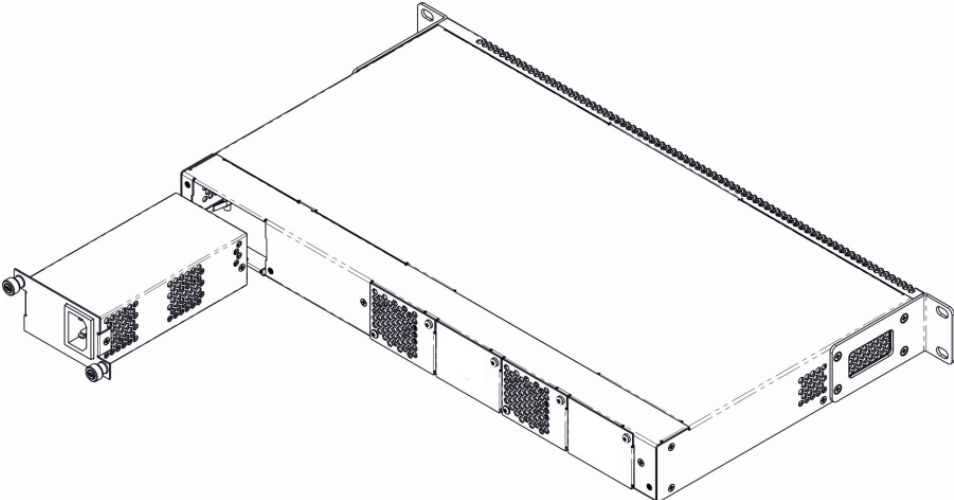
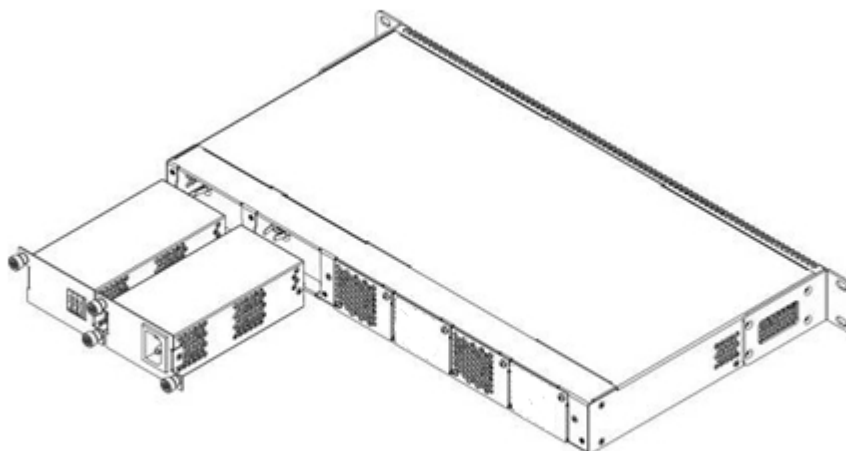

Figure 11 – Power module installation
Figure 12 – Power module installation for LTP rev.C/rev.D
Depending on power supply requirements, the LTP-4X/8X rev.B terminals can be supplemented with either an AC power module, 220 V, 50 Hz, or a DC power module, 48 V. Location of the power module is shown in Figure 11.
- **Step 1.** Install the power module into the socket shown in Fig. 11 or Fig. 12.